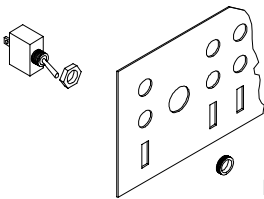

Fig. 1
2. Install the switches from the rear of the panel into the middle row of holes. Make sure that the hex nut and lockwasher are mounted on the switch before inserting it through the panel. (Fig. 1)